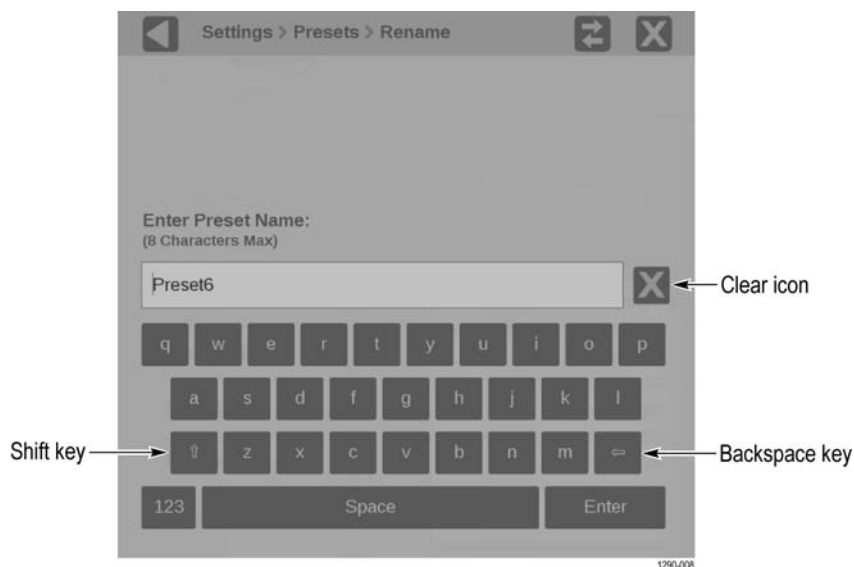

Figure 52: Editing a Preset name
- e. Touch the preset name box you want to change to open the editing display. (See Figure 52.)